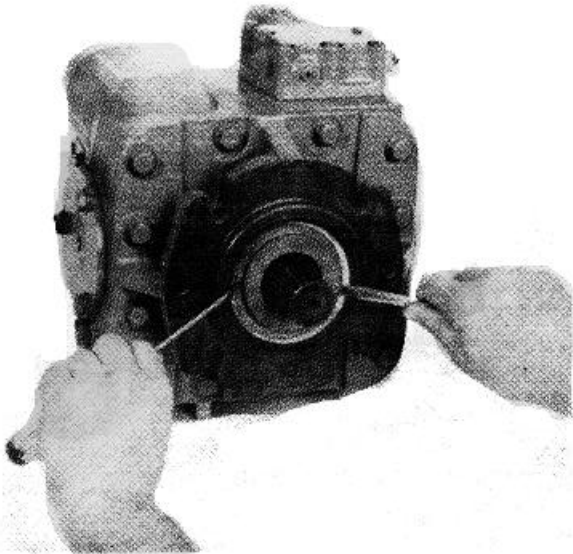

FIGURE 7-62.
- c. Remove the aluminum seal retainer with a screwdriver (see figure 7-62).